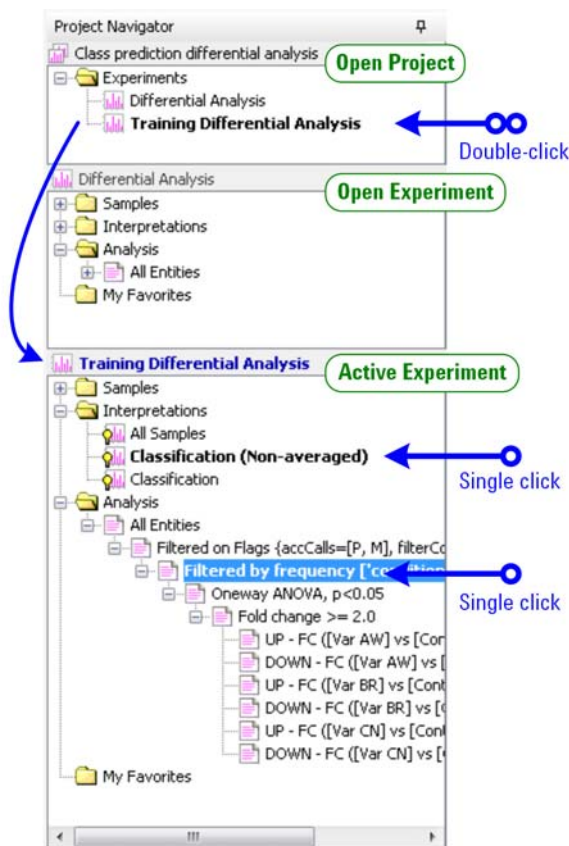

Figure 140 Project Navigator with both experiments created during the class prediction workflow
- a Double-click the recursive experiment in the Project Navigator. The recursive experiment opens and becomes the active experiment as shown in Figure 140.